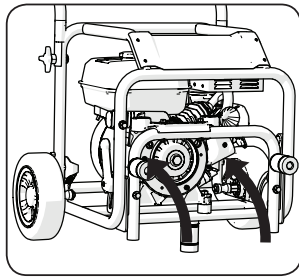

Fig 17
- Fold the frame and push inwards and upward into its stowed position. **(Fig. 17)**